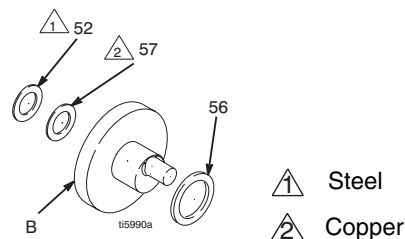

FIG. 2
1. Evenly lubricate inside of bronze bearing (C) in drive housing (49) with high-quality motor oil. Liberally pack top roller bearing (E), lower bearing (D) inside connecting rod (6) with bearing grease.
2. Assemble connecting rod (6) to drive housing (49). Rotate connecting rod to lowest position.
3. Apply grease to washers 52, 57 and 56. Install in order shown in FIG. 2.
6. Align mating surfaces of crank (B) and carefully align locating pins in drive housing (49) with holes in pinion housing (50). Push drive housing onto pinion housing or tap into place with plastic mallet.